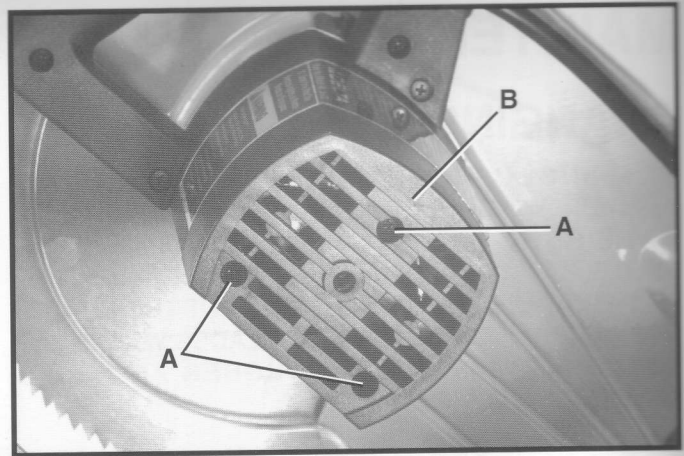

Fig. 47
1. Remove three screws (A) Fig. 47, and remove motor cover (B).